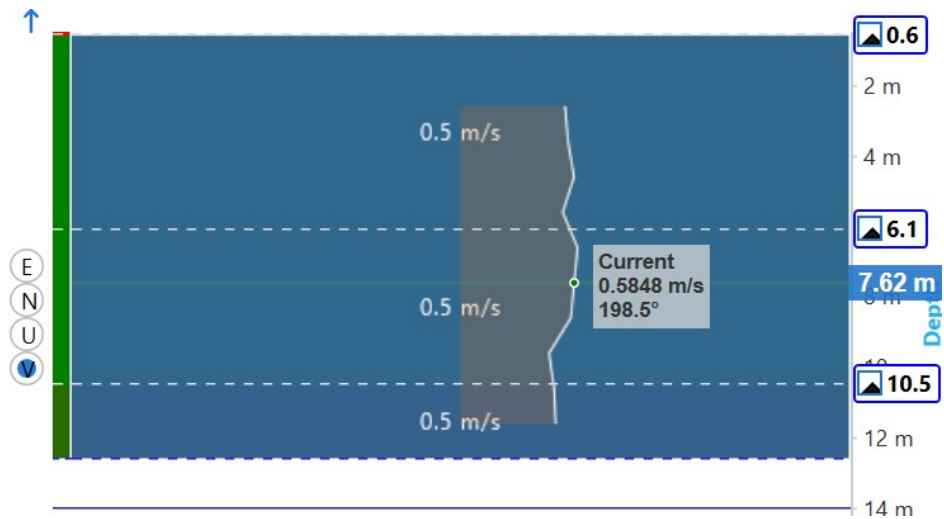

Figure 44: Cursor read-out pops up when hovering over the plot
When you hover the mouse over the plot area a cursor read-out will pop up, showing the current (component) value for that depth, and, in case you selected the full current magnitude (V), its direction. A horizontal line through the cursor position indicates the depth. The depth value shows in a blue box on the depth axis to the right of the plot. Figure 44 shows an example.